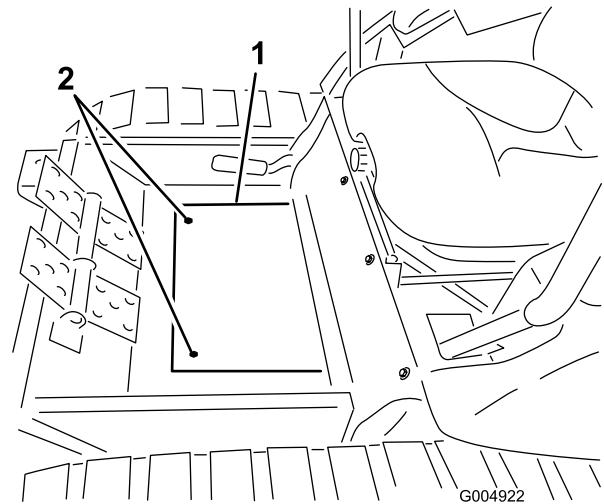

Figure 16
3. Remove the 2 screws securing the winter frame floor-plate cover to the floor, and remove the plate (Figure 16).